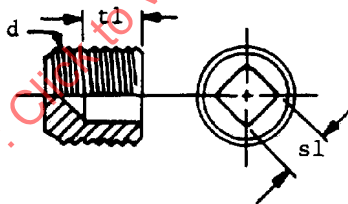

FIGURE 1 - TYPE A SQUARE COUNTERSUNK HEADLESS PLUGS
- 3.1 Tables 2 and 3 and Figures 1 to 4 list the type and principal dimensions of the recommended plugs which are suggested to ease maintenance. Common tools can be used, a minimum number of tools are needed and the plugs are easily distinguished. All plugs and tools herein are nominal inch sizes.